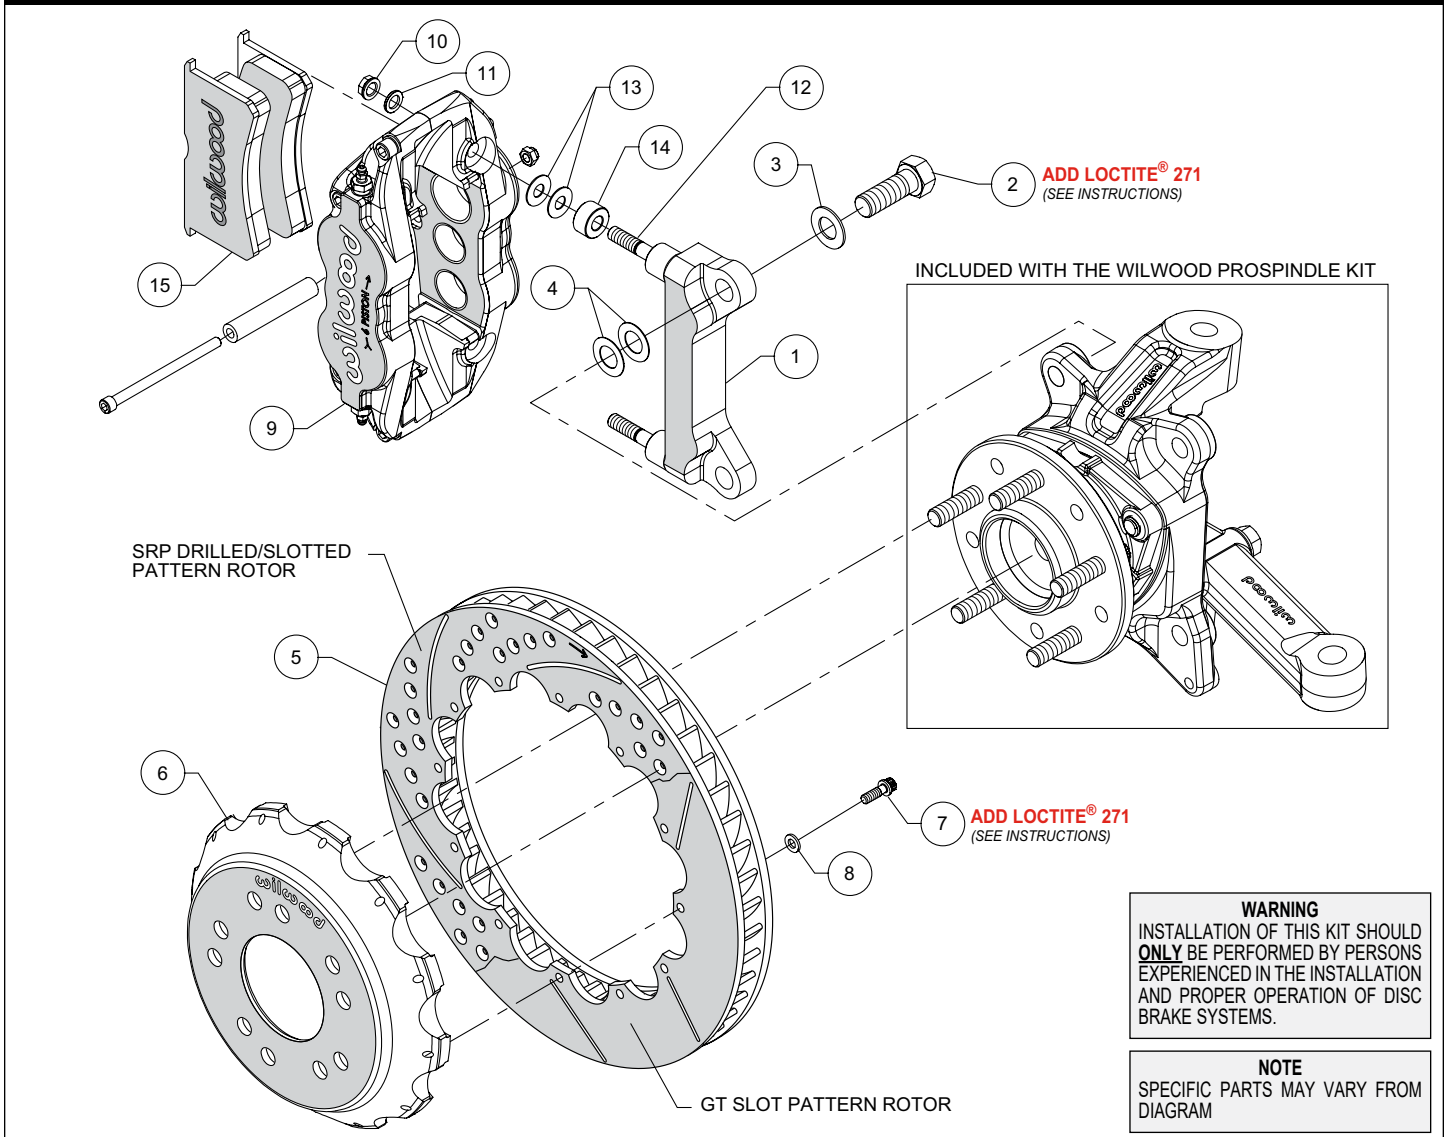
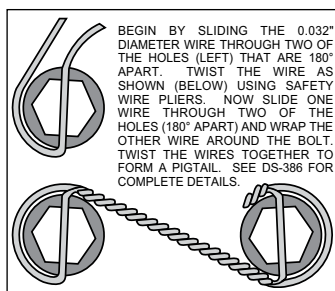

Figure 1. Typical Installation Configuration
Figure 3. Safety Wire Diagram
**Assembly Instructions** (numbers in parenthesis refer to the parts list and Figure 1 on the preceding pages):
• The caliper mount bracket (1) should initially be installed with clean, dry threads on the mounting bolts. Orient the bracket as shown in Figure 1 and Photo 1 and install using mount bolts (2) and washers (3). Initially place two .024" thick shims (4) on each bolt between the bracket and spindle, Figure 1. Temporarily tighten the mounting bolts. **NOTE: The bracket must fit squarely against the mounting points on the spindle.** Inspect for interference from casting irregularities, machining ridges, burrs, etc. Later, after the caliper alignment has been checked, the mount bolts will be secured using red Loctite® 271.
- Orient the rotor (5) and the hat (6) as shown in Figure 1 and Photo 2. Attach rotor to hat using bolts (7) and washers (8). Apply red *Loctite*® 271 to the bolt threads and torque to 155 **in-lb** using a criss-cross pattern. For an added measure of security, the bolts may be safety wired using standard 0.032 inch diameter stainless steel safety wire as shown in Figure 3. Please refer to Wilwood's data sheet DS-386 (available at [www.wilwood.com/Pdf/DataSheets/ds386.pdf](http://www.wilwood.com/Pdf/DataSheets/ds386.pdf)) for complete safety wire installation instructions.
- **NOTE:** *This kit contains distinct right and left hand calipers that must be mounted in a specific direction, as described below.* Initially place two .035" thick shims (13) and one spacer (14) on each stud (12) between the caliper and the bracket, as shown in Figure 1 and Photo 5. Mount the caliper (9) onto the bracket (1) using lock nuts (10) and washers (11), Figure 1. Ensure that the caliper is mounted so the largest pistons are at the rotor exit end of the caliper, in relation to the direction of rotor rotation. Temporarily tighten the lock nuts and view the rotor through the top opening of the caliper. The rotor should be centered in the caliper, Photo 6. If not, adjust by adding or subtracting shims (4) between the bracket and the spindle. Always use the same amount of shims on each of the two mounting bolts. Once the caliper alignment is correct, remove the bracket mounting bolts one at a time, apply red *Loctite*® 271 to the threads, and torque to 140 ft-lb.